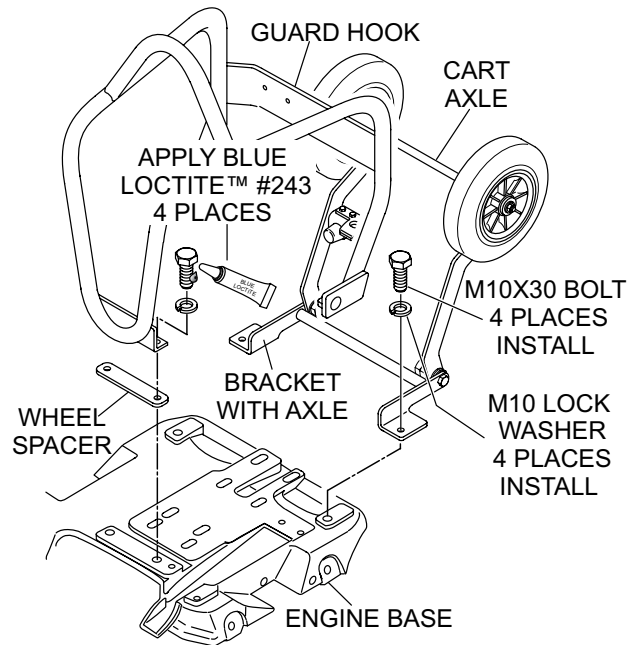

Figure 3. Wheel Spacer/Bracket Installation
- Place wheel spacer (item 10) onto engine base. Reference Figure 3.
- Next, place wheel bracket (item 30) onto engine base,
- Using a 17 mm socket, secure wheel spacer to engine base using the two supplied M10X30 bolts (item 28) and M10 lock washers (item 29). Apply Blue Loctite™ #243 to bolt threads. Torque bolts to 54.2~57.9 ft·lbf (750~800 Kgf·cm).